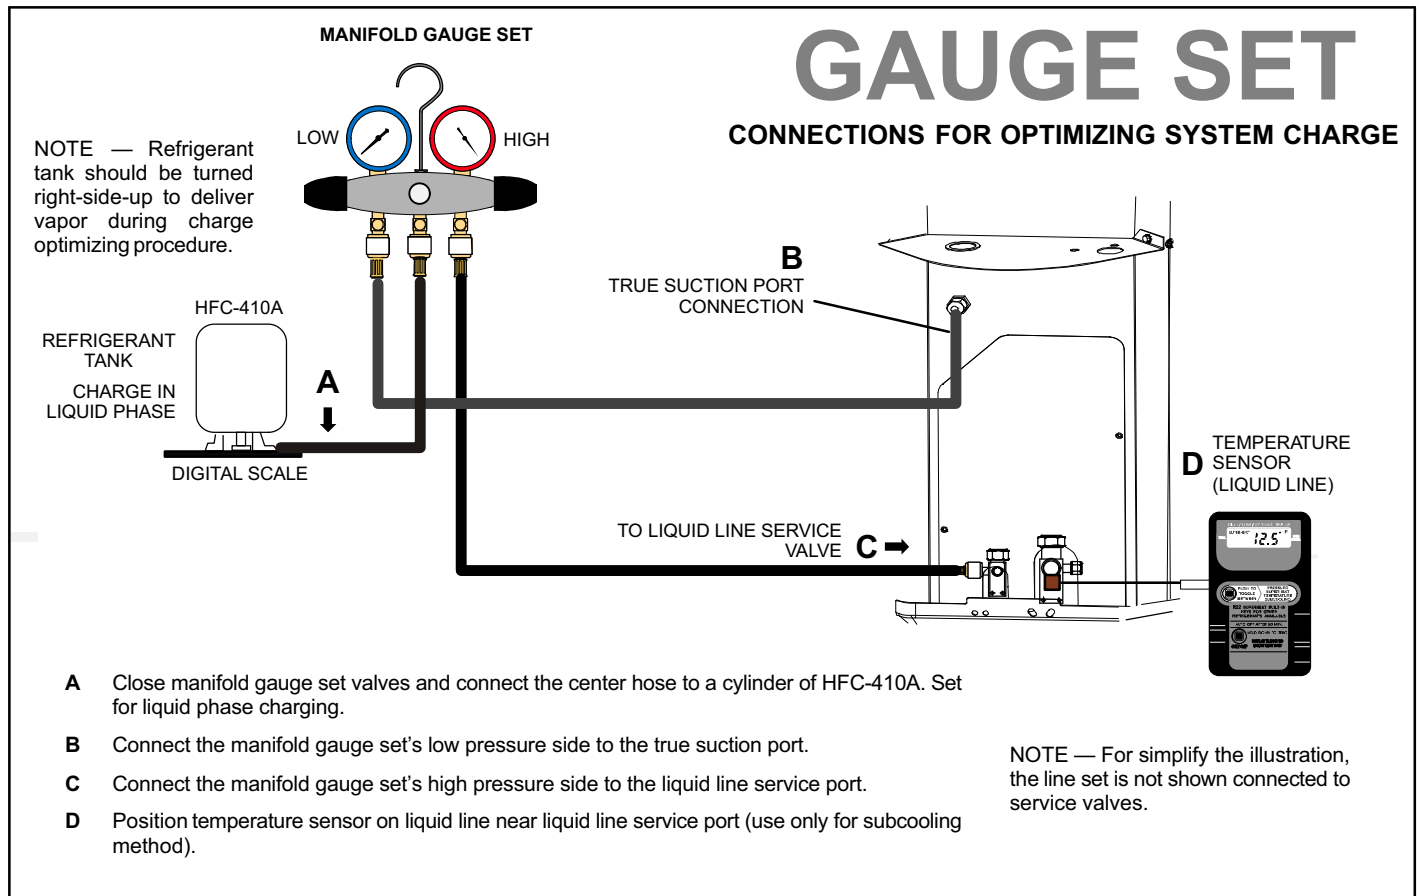

Figure 20. Typical Gauge Set Connections for Initial Weight-in Charge or Optimizing System Charge
3. Verify that the manifold gauge set is connected as illustrated in figure 20. Use a temperature sensor positioned near the liquid line service port as illustrated in figure 20 which will be required later when using the subcooling method for optimizing the system refrigerant charge.
After the evacuation procedure, reconnect the manifold gauge set as illustrated in figure 20.
NOTE - Temperature sensor illustrated in figure 20 is not required for initial system weigh in charging.
1. Close manifold gauge set valves and connect the gauge set as exemplified in figure 20.
1. Move the low-side manifold gauge hose from the vapor line service valve to the true suction port (see figure 20).